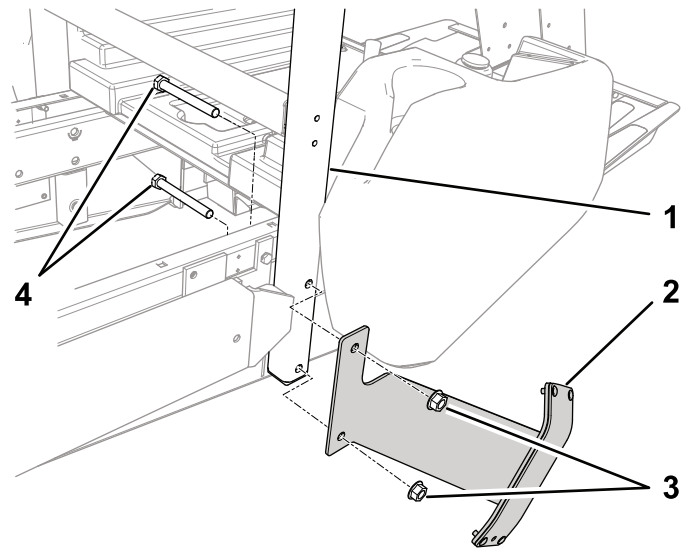

Figure 18
2. Mount the hopper stop assembly to the outside of the ROPS tube with 2 bolts (1/2 x 4-1/2 inch) and locknuts (1/2 inch) as shown in Figure 18.
1. Remove the 2 bolts and nuts securing the ROPS tube to the right side of the machine (Figure 18).